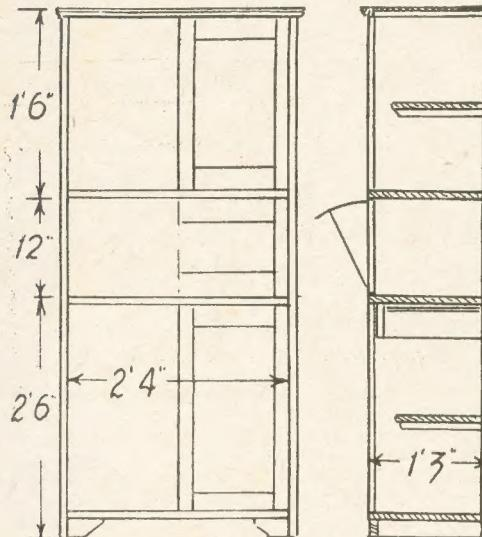
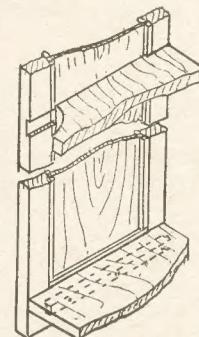

Fig. 1—Front and side elevation
Fig. 4—Shelf fitting
Fig. 1 shows a front elevation and a side section, from which dimensions can be taken. Construct the two side pieces first. These sides are framed up from  $\frac{1}{2}$ in. by 2in. wood for the uprights, and  $\frac{1}{2}$ in. by 3in. wood for the rails, except the centre one which can be 2ins. wide. A shouldered mortise and tenon joint is used at top and bottom of these frames, as at (A) in Fig. 3, and an ordinary tenon for the centre rails, as shown.
Fig. 4 shows how the bottom and intermediate shelves are fitted across. The bottom is made up of two or more boards of  $\frac{1}{2}$ in. or  $\frac{1}{4}$ in. wood, glued together to make up the depth. It is then screwed to a 1in. square fillet each side, the fillets themselves being screwed to the sides of the cabinet. Let these fillets be  $1\frac{1}{2}$ ins. short of the front edge to leave room for the blocks glued left and right at the front of the cabinet, at the bottom. These are shown in Fig. 1.